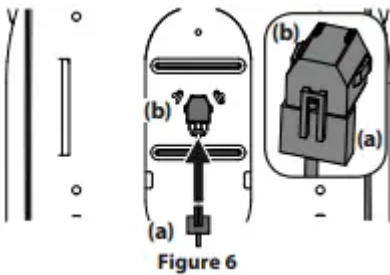

Figure 6
3. If necessary, securely connect the seat switch wiring harness (a) to the seat switch (b). See Figure 6. Secure excess wire away from pinch points before continuing. Note: Tractor will not operate without the seat switch wiring harness connected.